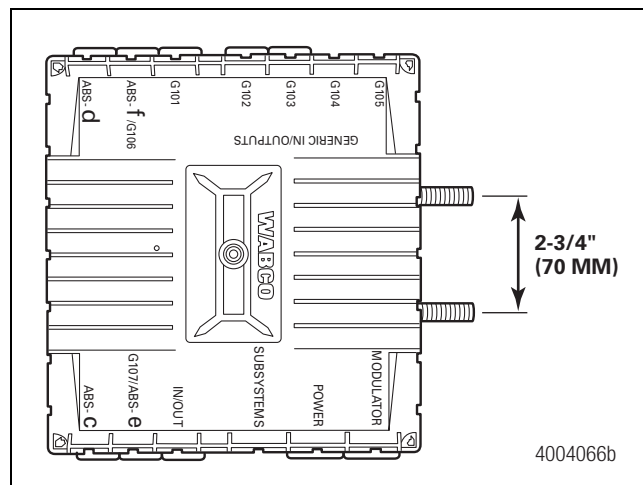

Figure 5
- Drill two 1/2-inch mounting holes. The center-to-center distance between the two holes must be 2-3/4-inches (70 mm) and mount directly to a rigid structure. Figure 5.